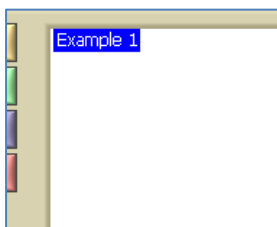

Figure 1.2.4-1: The list-box on **Manage database Connection** window.
1. Select a Database Connection from the list-box (Figure 1.2.4-1).